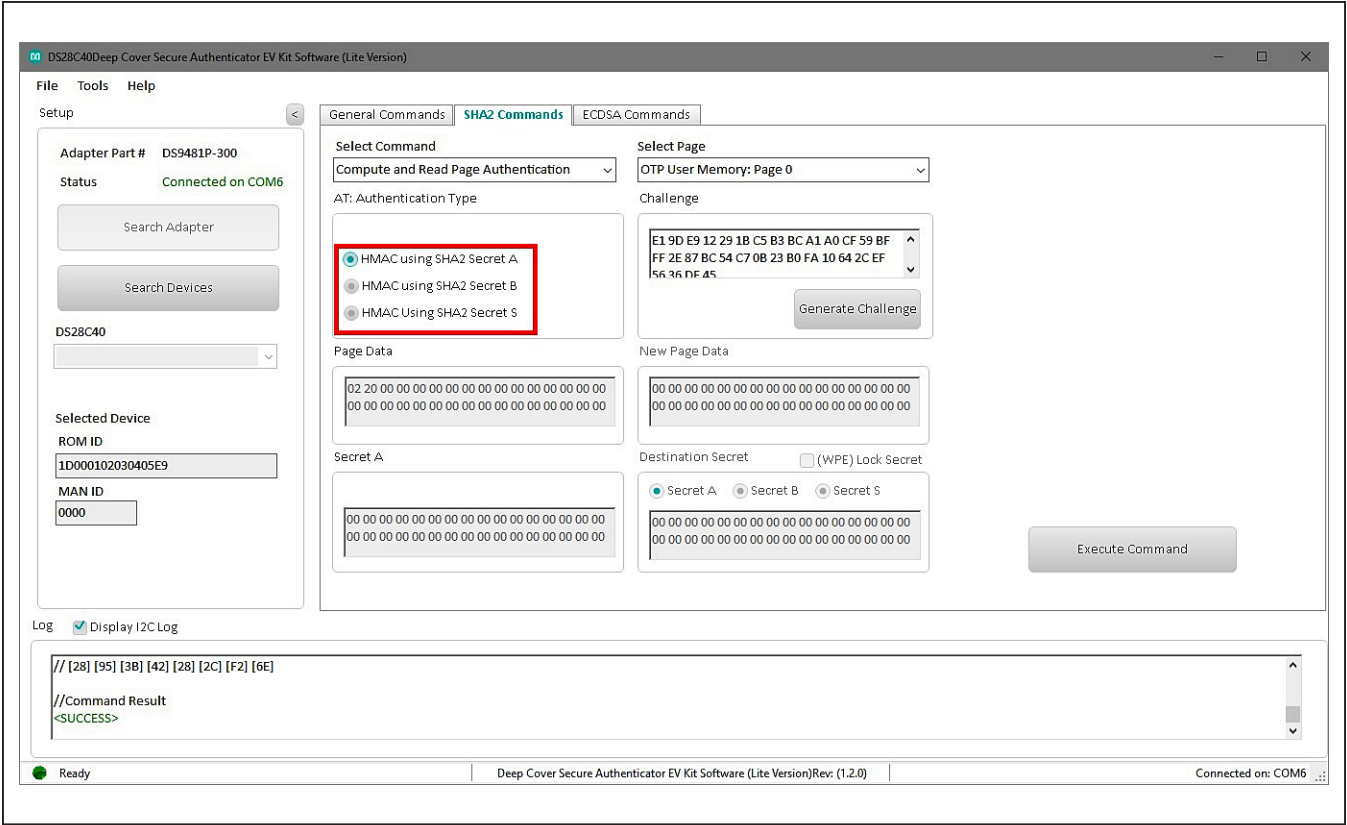

Figure 21. Select Secret
7) In the **AT: Authentication Type** combo box, select a secret to compute the HMAC on selected page (Figure 21).